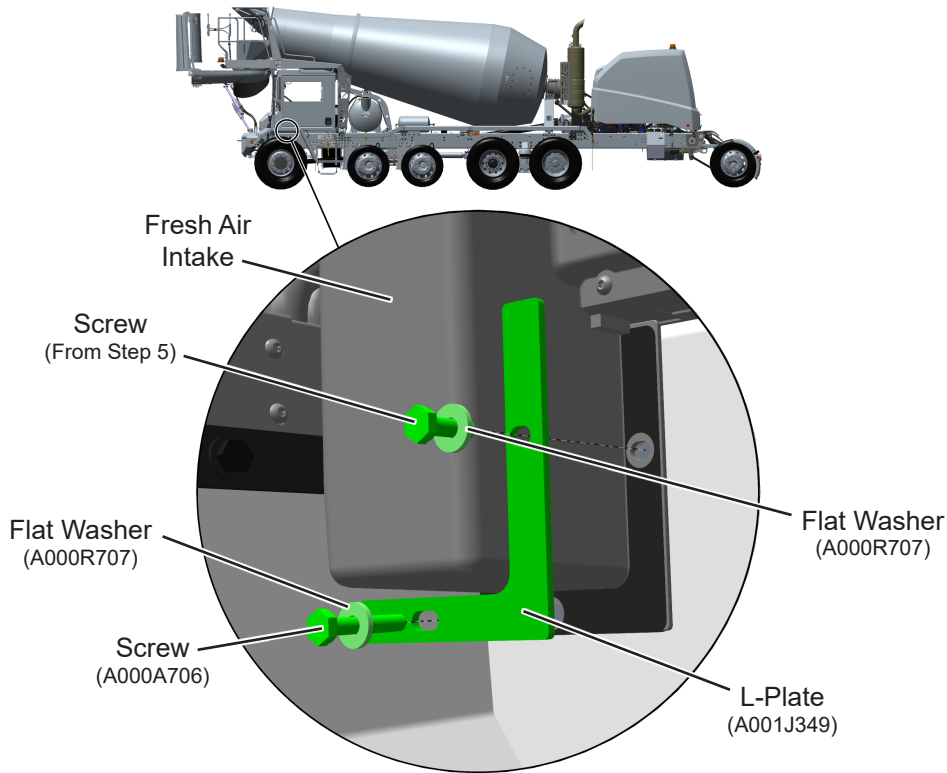

Figure 6. HVAC Fresh Air Intake
7. Apply Loctite® #242 to threads of 0.25-20 x 1.25" screw (A000A706) and one of the 0.25-20 x 0.75" screws removed in Step 5. See Figure 6.
8. Install flat washer (A000R707) on screws. See Figure 6.
9. Secure L-plate bracket (A001J349) on fresh air intake flange with screws and flat washers. See Figure 6. Install 0.25-20 x 1.25" screw in bottom L-plate bracket location. Final tighten screws to 49 in lbs.